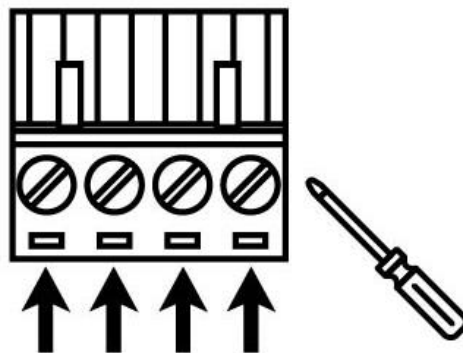

Figure 2.5: Power Terminal Block
- Step 2 Tighten the wire-clamp screws to prevent the wires from loosening, as shown below in Figure 2.5.